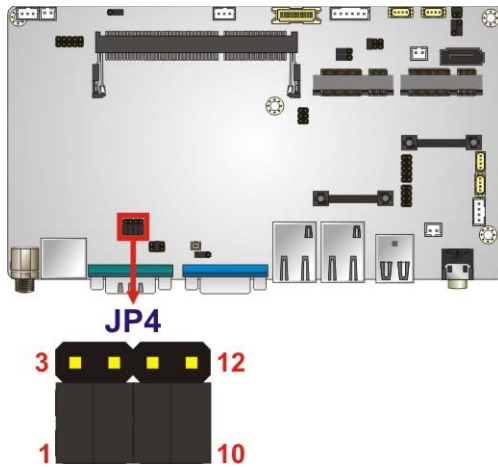

Figure 3-15: RS-232/422/485 Serial Port Select Jumper Location
- Jumper Location:** See Figure 3-15
The RS-232/422/485 Serial Port Select jumper location is shown in Figure 3-15.